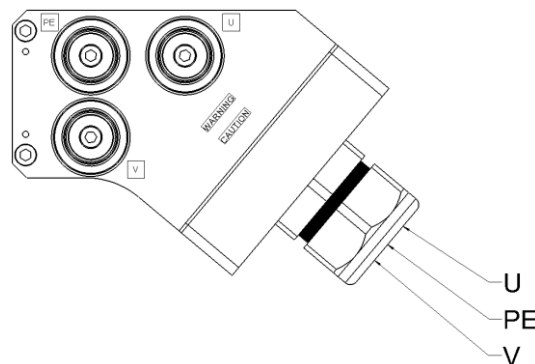

Figure 4.1.1-4. Conductor Orientation
6. Reinstall three (3) terminal nuts and three (3) terminal lugs to contacts (See Figure 4.1.1-3).